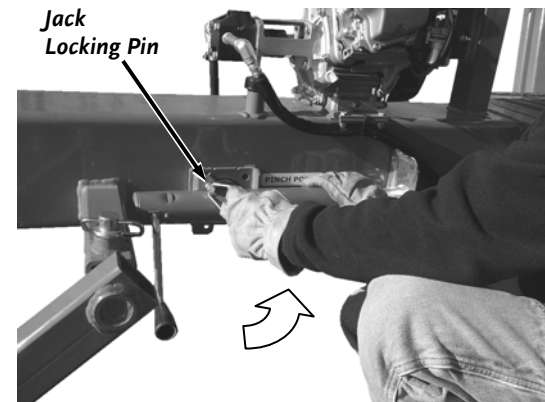

Figure 12
5. Pull the Lock Pin of the Jack and rotate the Jack counterclockwise until the Lock Pin locks the Jack into the horizontal position (**Figure 12**).